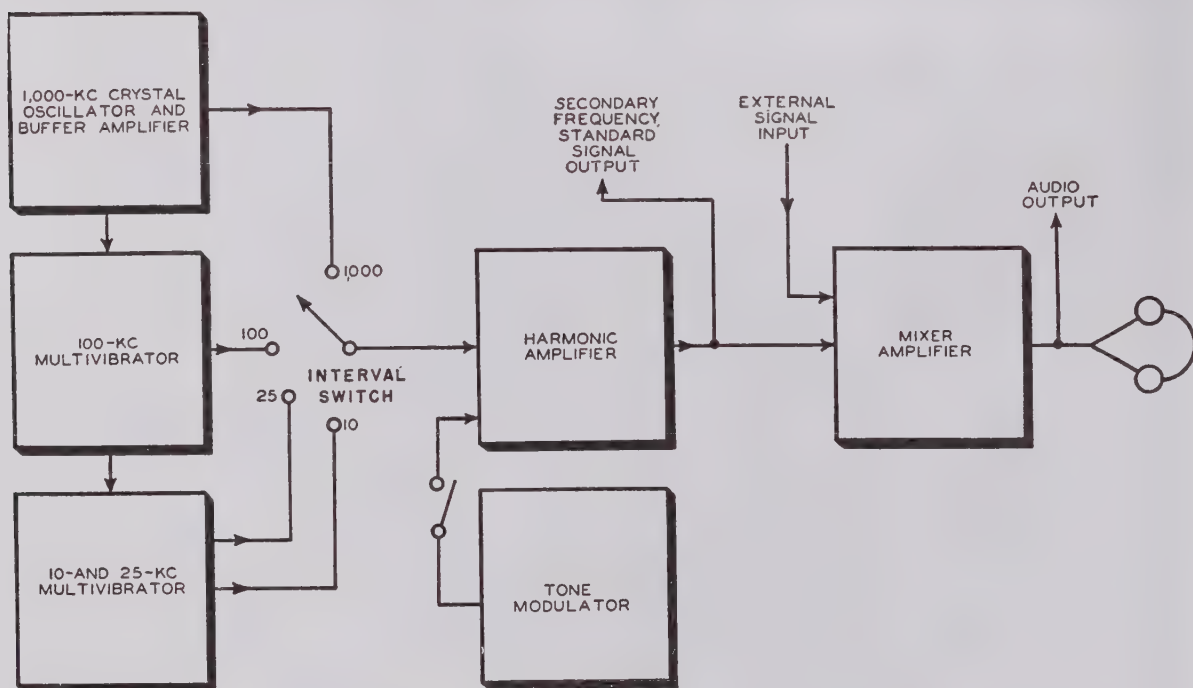

Figure 13 Block diagram of typical secondary frequency standard.
- (1) The INTERVAL switch, located on the right side of the secondary frequency standard panel (fig. 13), is used to select the low-frequency oscillator harmonic output at the desired intervals. The ZERO SET adjustment varies the 1,000-kc crystal oscillator frequency a few cycles in either direction to compensate for temperature changes. Ordinarily, it is used only when checking the secondary frequency standard against a primary frequency standard. The BAND switch located at the lower left corner of the panel permits selection of any one of six frequency bands. The total frequency coverage of this secondary standard is from 10 kc to 50 mc.
- (2) The AMP TUNE control (lower center of panel) is used to adjust the output level of the harmonic amplifier. There